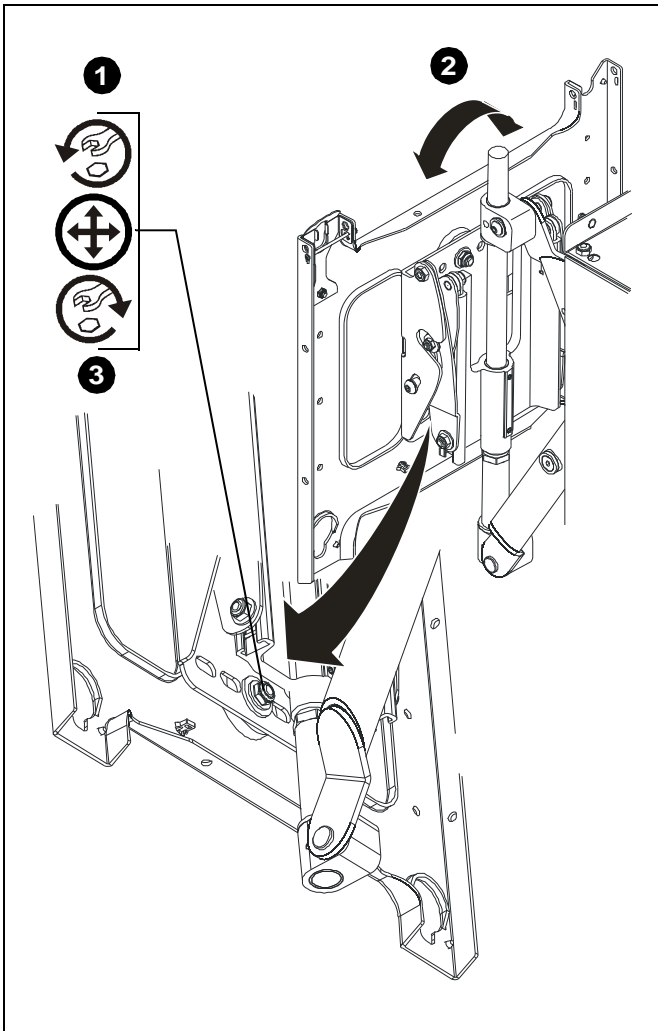

Figure 15
1. Loosen the roll tension adjustment nut located on the back side of the faceplate assembly. (See Figure 15)
3. Tighten roll tension adjustment nut. (See Figure 15)